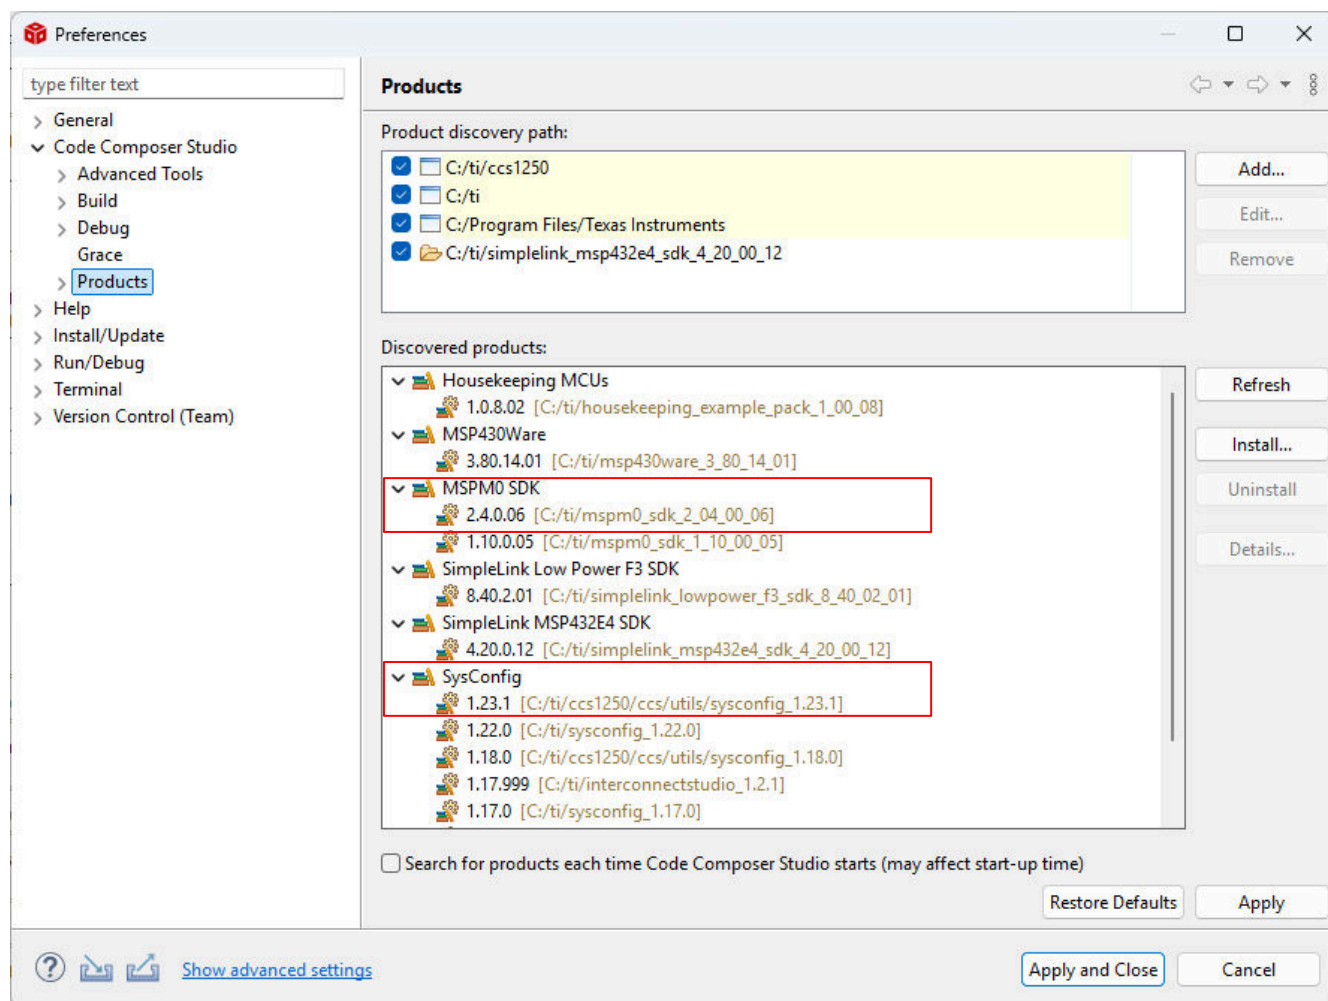

Figure 3-2. Verification of MSPM0 SDK Installation
- b. Make sure that there is *MSPM0 SDK* and *SysConfig* (SysConfig is installed automatically when you install **MSPM0 32-bit Arm Cortex-M0+ General Purpose MCUs**) under the *Discovered products*, as is marked in Figure 3-2. If *MSPM0 SDK* or *SysConfig* does not appear, select *Refresh* on the right side of the *Preference* window. If *MSPM0 SDK* or *SysConfig* are still unavailable, check whether the installation is correct. A standalone desktop version of SysConfig can be found at SYSCONFIG System configuration tool.